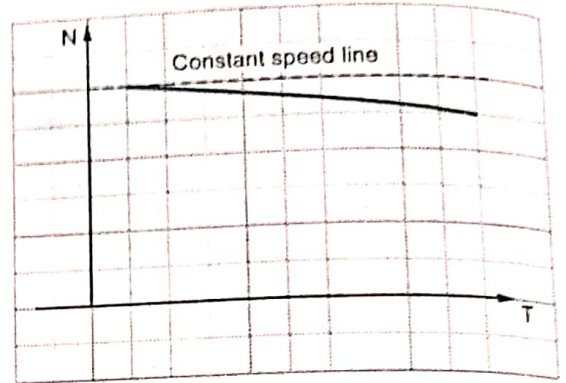

Fig. Q.47.3 N Vs T for shunt motor
- This curve shows that the speed almost remains constant though torque changes from no load to full load conditions. This is shown in the Fig. Q.47.3.